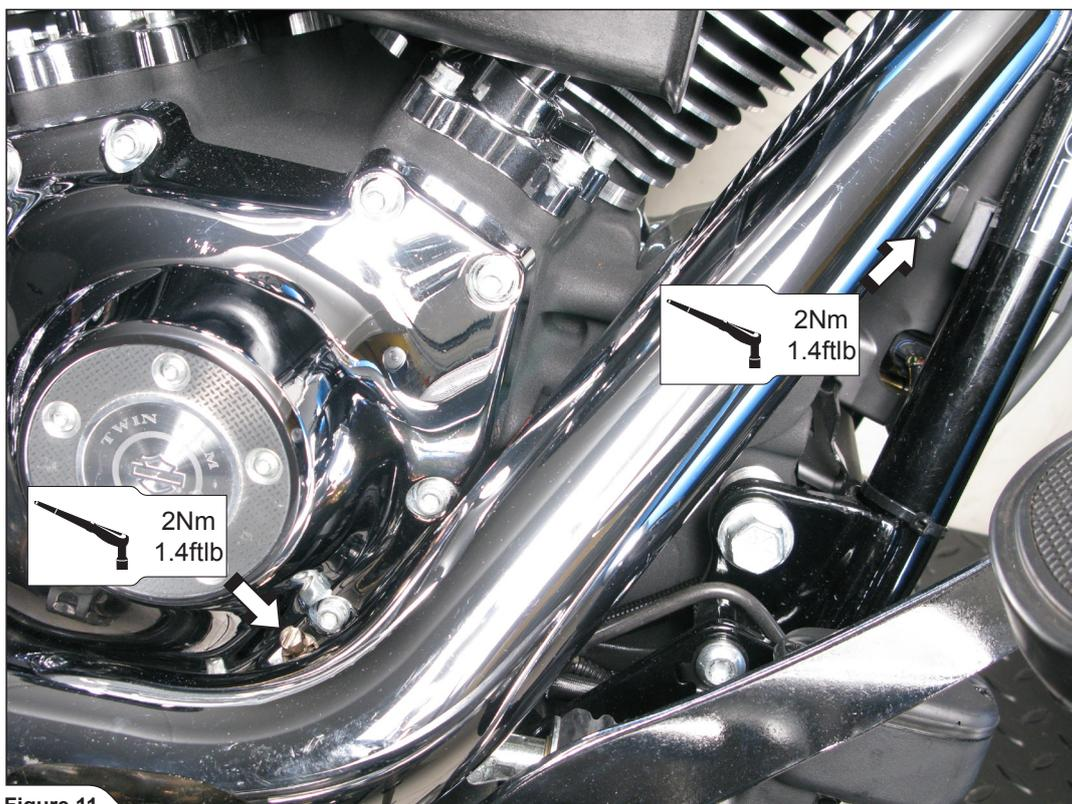

Figure 11
6. Assemble the original heat shields onto the headers, align them in respect to the header tubes and tighten the tape clamps (Figure 11, 12).